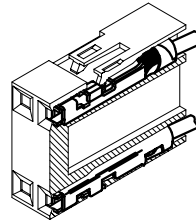

FIGURE 1
- ①. MOLDING MATERIAL: MODIFIED POLYPHENYLENE ETHER, COLOR: BLACK, MEETING UL 94V-0.
- ②. PIN LENGTH TO BE .210/5.33 MIN. RECOMMENDED PIN LENGTH IS .225±0.015 [5.72±0.38].
- ③. TO LATCH TERMINAL PUSH AS SHOWN IN FIGURE 1. BE SURE THAT LATCH SNAPS DOWN.